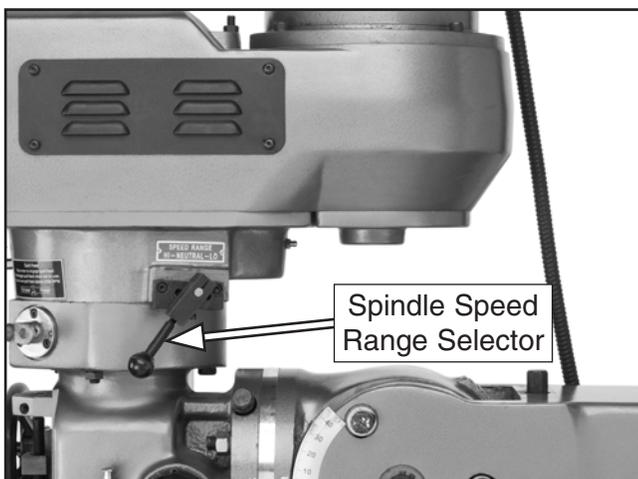

Figure 39. Spindle speed range selector.
3. Press spindle speed range selector handle in toward head to retract locking pin and move selector (see **Figure 39**).